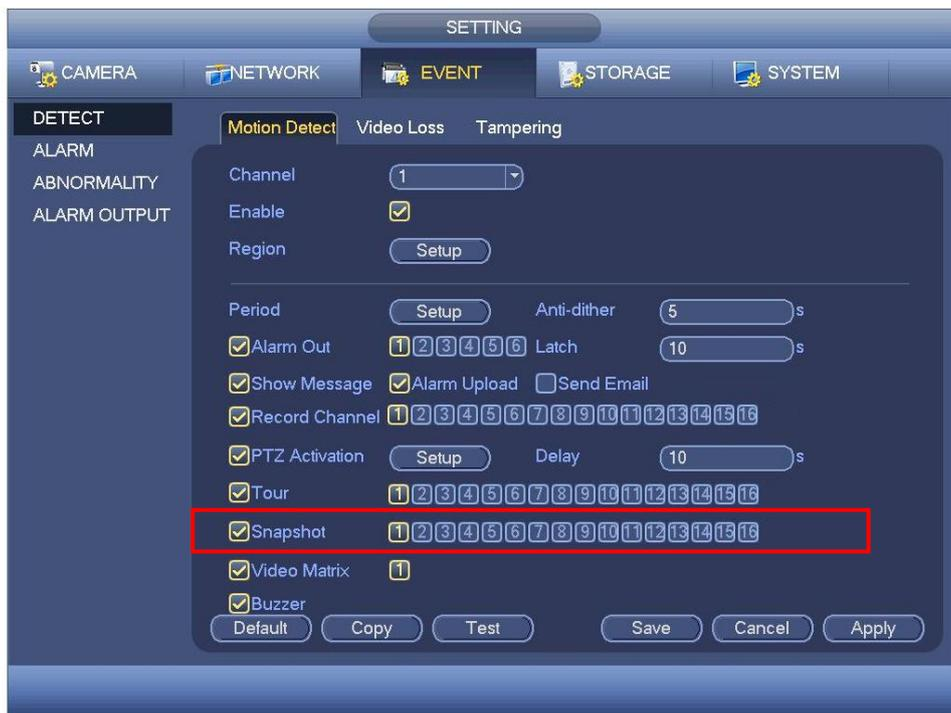
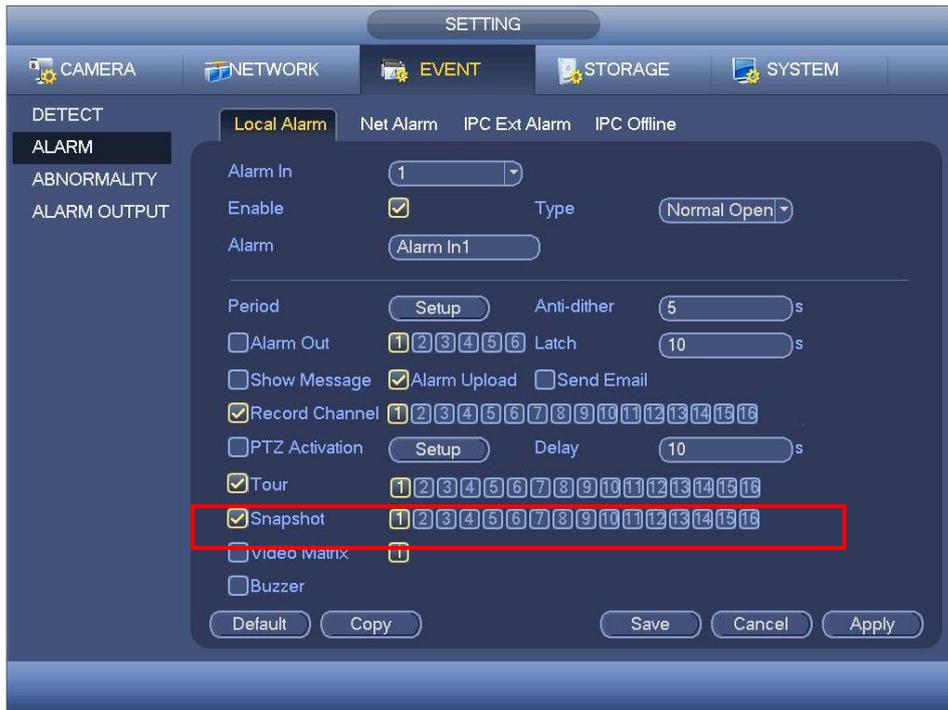

Figure 4-119
Figure 4-120
- In main menu, from Setting->Event->Detect, please enable snapshot function for specified channels (Figure 4-119). Or In main menu, from Setting->Event->Alarm (Figure 4-120) please enable snapshot function for specified channels.